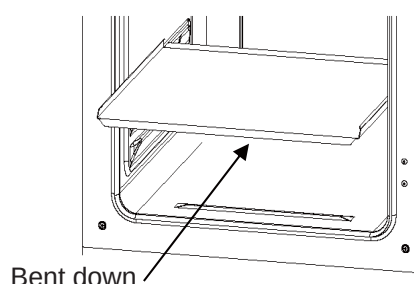

Fig. 4
5. Pull out the humidifying pan (Fig. 4).
Note: Position the tray with the front edge bent down (Fig. 4).